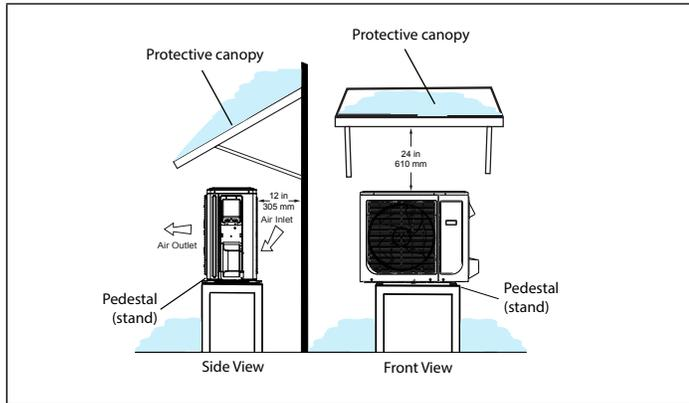
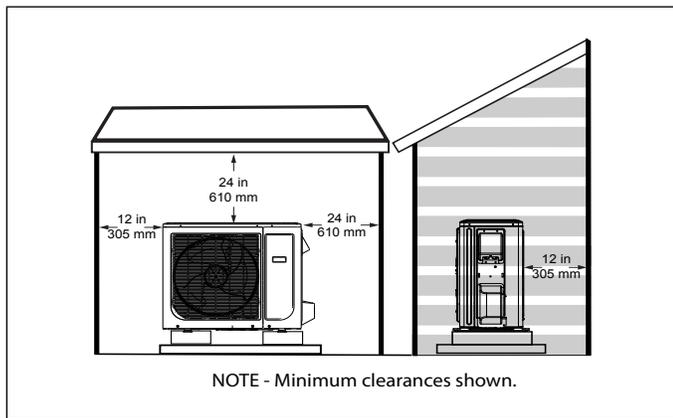

Figure 13. Outdoor Unit on Pedestal and Protective Canopy
Figure 18. Dog House-Style Shelter
- If the outdoor unit is subjected to prolong exposure to direct sunlight with temperatures over 100°F (38°C) a canopy is recommended as illustrated in "Figure 13. Outdoor Unit on Pedestal and Protective Canopy" or "Figure 18. Dog House-Style Shelter" on page 12.
- Place unit away from overhanging roof lines which would allow water or ice to drop on, or in front of, coil or into unit. Construct a canopy as illustrated in “Figure 13. Outdoor Unit on Pedestal and Protective Canopy”
- Outdoor unit can be installed in a dog house style shelter as illustrated in “Figure 18. Dog House-Style Shelter”